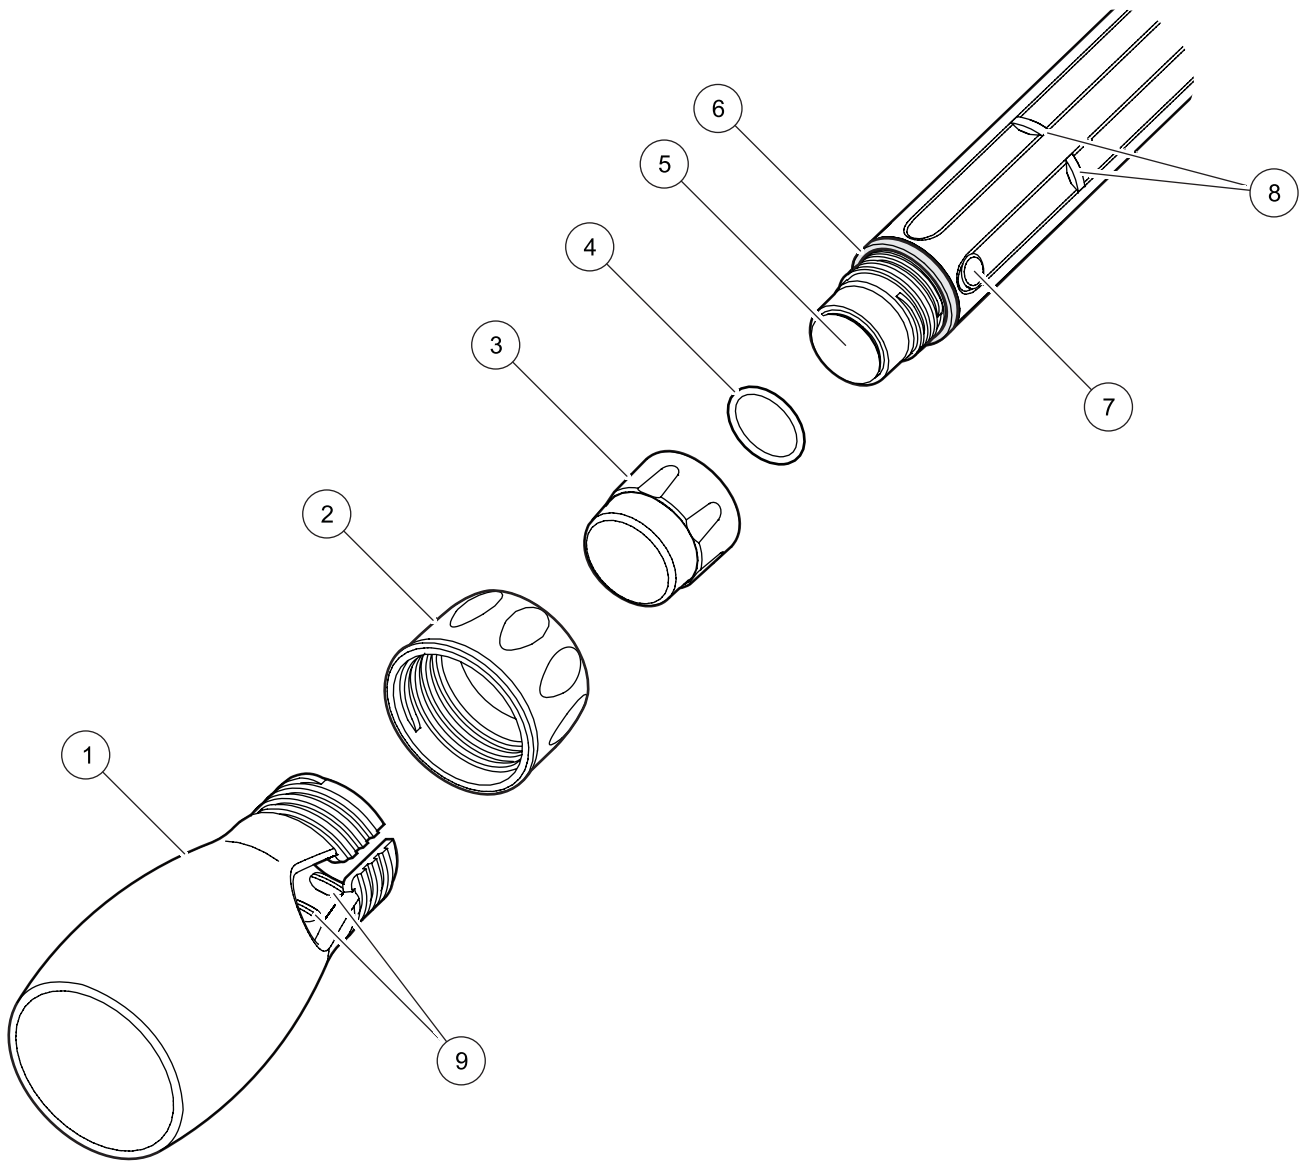

Figure 2 Sensor End Exploded View
1. Hold the shroud (Figure 2, item 1) and unscrew the locking ring.
2. Slide the shroud and locking ring (Figure 2, item 2) off the probe.
1. Slide the locking ring (Figure 2, item 2) onto the probe, with the threads toward the shroud.
2. Slide the shroud (Figure 2, item 1) onto the probe body. Rotate the shroud and move it up or down the probe body, so that the locking ribs (Figure 2, item 8) on the probe body are in between the locking ridges in the shroud (Figure 2, item 9).
- After use, visually inspect the sensor cap (Figure 2, item 3). Use optical tissue or a cotton swab with soapy water to clean the sensor cap. Rinse with fresh water.
- If the cap is sealed properly using the top O-ring seal (Figure 2, item 4), no water should be present between the sensor cap and the clear plastic sensor lens (Figure 2, item 5) at the top of the probe. If water is present, remove the cap and thoroughly dry the inside of the cap and the clear plastic sensor lens. The cap may require replacement (Cat. No. 58112-00).